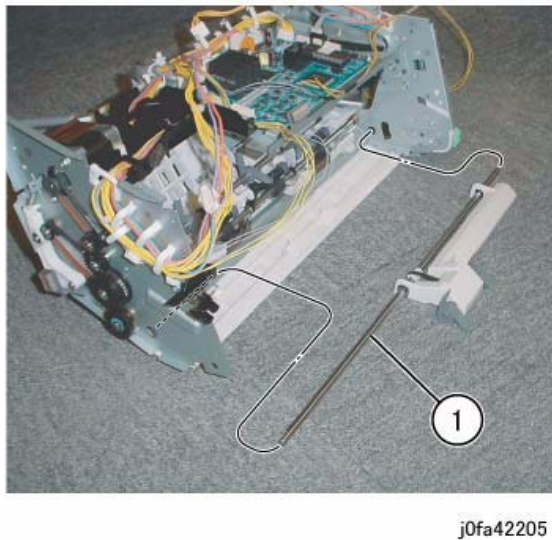

Figure 5 Removing the Paddle Link Assembly
9. Remove the Paddle Link Assembly (Figure 5):